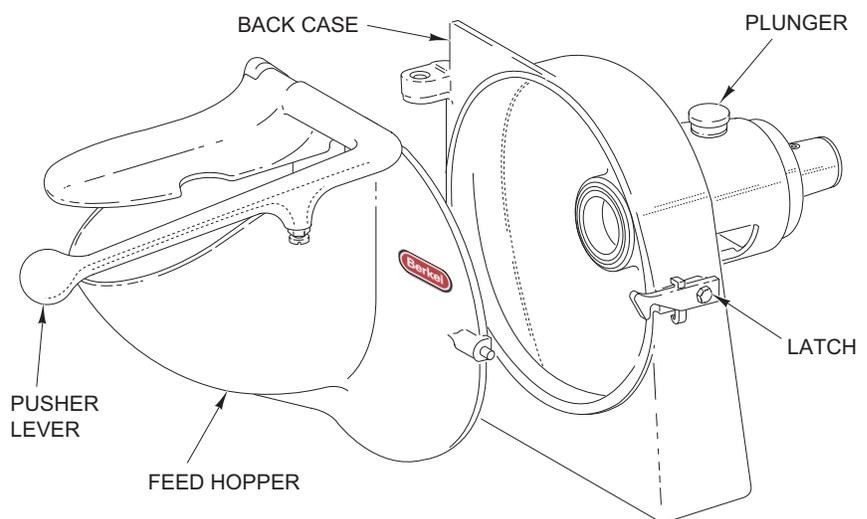

Fig. 1
The back case (Fig. 1) mounts into the attachment hub of a mixer, chopper, food cutter, or power drive and is retained by a thumb screw of that machine. It is available with a #12 size hub.
The standard front is the feed hopper and pusher lever (Fig. 1) feed design. It hinges onto the back case and is held with a latch (Fig. 1). To remove front, lift latch, swing front open, and raise from hinge holes. The pusher lever is held in the feed hopper by a large pin. To remove pull the pin ring.
Open front, lift plunger (Fig. 1) and slide the adjustable slicer plate (Fig. 2) into operating position. Slicing thickness may be adjusted from approximately $\frac{1}{16}$ " to $\frac{5}{8}$ " by turning the adjusting nut (Fig. 2), without removing unit from its assembled position. The easy accessibility of this adjustment makes it possible to vary the slice thickness to suit the user's preference.
2. Attach back case (Fig. 1) of the slicer to attachment hub of companion machine and secure with the thumb screw.
4. Select accessory (such as adjustable slicer plate) to be used. Lift plunger (Fig. 1) and insert rotating unit into drive position. Release plunger.
3. Lift the plunger (Fig. 1) and withdraw the rotating unit.